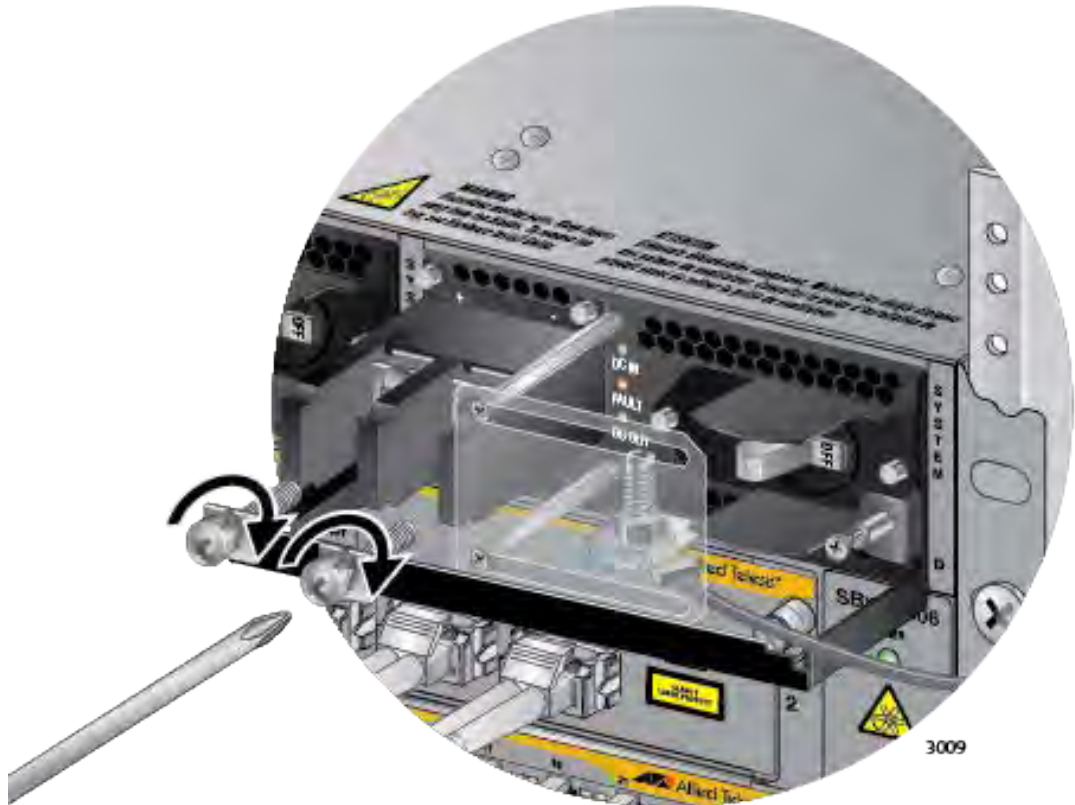

Figure 168. Reinstalling the Screws on the Positive and Negative Terminals
7. Reinstall the two screws on the negative (-) and positive (+) terminals. Refer to Figure 168 on page 271.